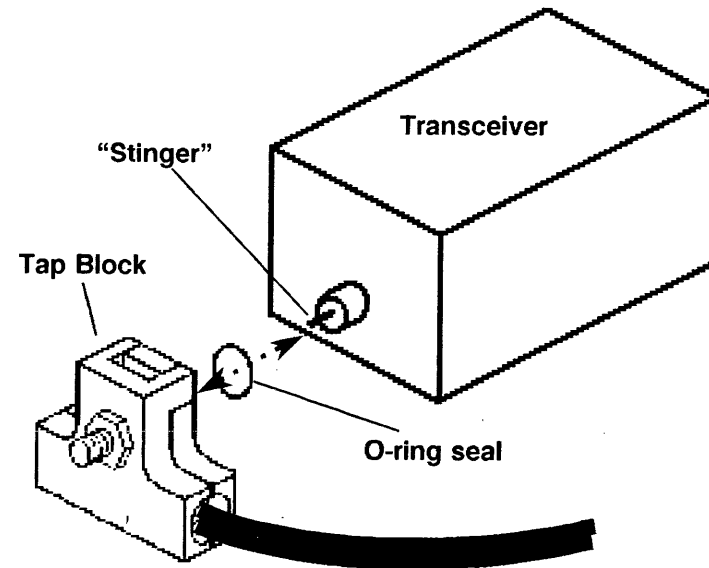

Figure 4. Transceiver and Tap Block Assembly
- a. Remove the transceiver from the Ethernet tap block and remove the O-ring seal from the "stinger" end of the transceiver (Figure 4). Connect the Transceiver Terminator Tool (600T1706) to the "stinger" end of the transceiver and reconnect the drop cable to the transceiver.